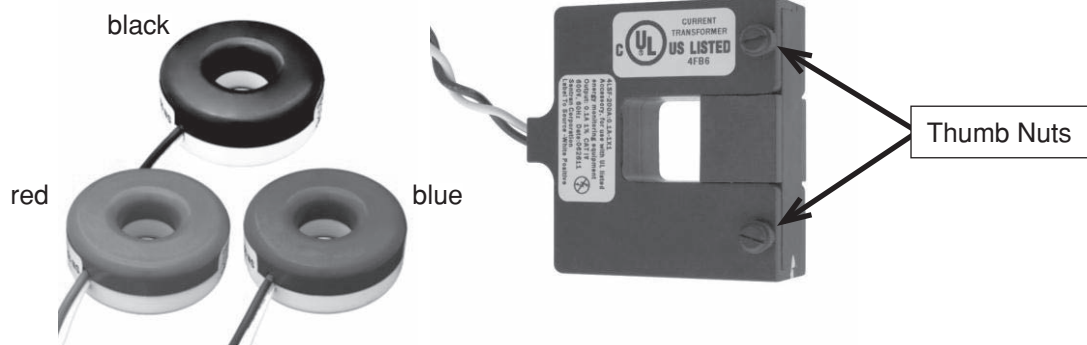
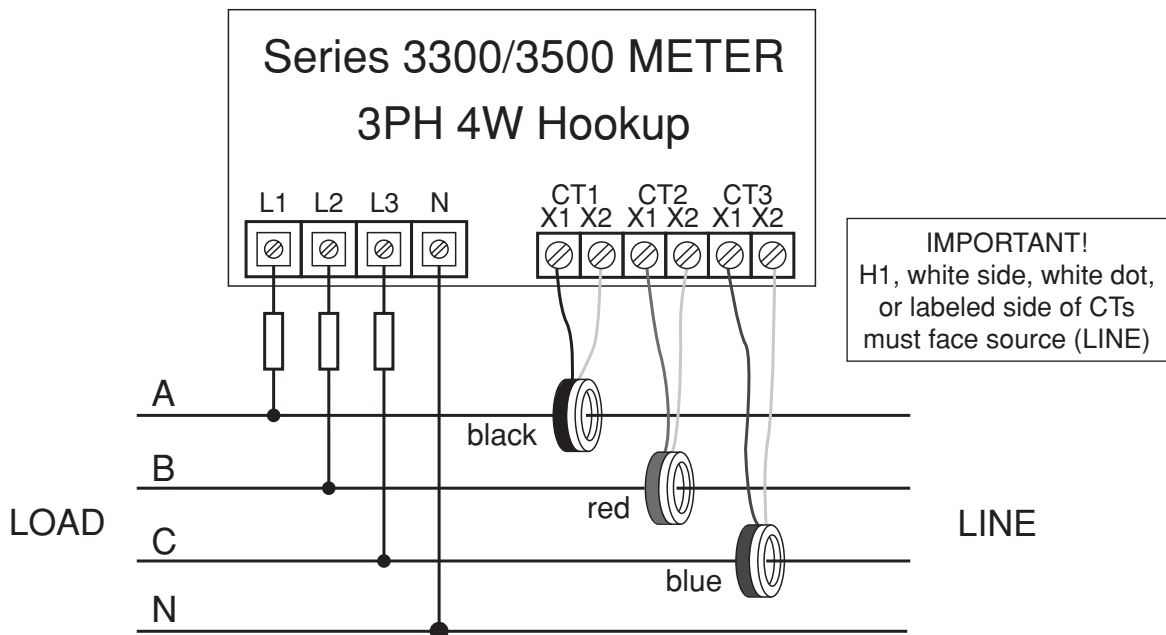

Figure 6: Leviton solid core and Split Core CTs
Figure 8: 3-phase 4-wire Wye hookup diagram
2. Connect 600 V min. insulated wiring for Line voltages and Neutral to the appropriate locations in the breaker panel, in accordance with all national and local electrical codes; see Hookup Diagrams in Figures 8 and 9 below for correct wiring information.
- Current and voltage inputs must be installed in phase' (e.g. CT1 on Line 1, CT2 on Line 2, CT3 on Line 3) and oriented correctly as shown in Hookup Diagrams in Figures 8 and 9.
- Leviton solid core CTs (Figure 6, left photo): In accordance with CT label, the LINE side of CT must face incoming Line. White lead connects to the appropriate X2 terminal. Black or colored lead connects to the appropriate X1 terminal.
- Leviton split core CTs (Figure 6, right photo): The side with the white dot, white label, or H1, must face the incoming LINE. White wire connects to X2 terminal, black wire connects to X1 terminal.
4. Connect the CT leads to the appropriate terminals; see Hookup Diagrams in figures 8 and 9 below for correct CT orientations and connections. The CT terminal block is removable to make wire connections easier; see Figure 5. After securing CT wires to the appropriate terminals slide terminal block up into header until fully seated.
5. For Split Core CTs: Remove two thumb nuts (Figure 6) and remove section from CT. With power to the conductors turned off, place the 3-sided section of the CT around the appropriate conductor while ensuring that white label, white dot or H1 faces Line (source). Reassemble the CT while ensuring that the white hash marks align (figure 5) and reinstall thumb nuts. Repeat for remaining conductors for two or three phase applications, as shown in Figures 8 and 9.
6. For Solid Core CTs: With power turned off, disconnect each monitored conductor one at a time and slide on appropriate CT, ensuring the CT is correctly oriented as shown in Figures 8 and 9. Reconnect the conductors.
Hookup Diagrams, Figures 8 and 9
- b. For mono-directional metering applications the Energy Flow arrow should always point to the right. If an Amperage or kW screen shows the arrow pointing to the left a current transformer may be installed backwards or on the wrong phase, or CT connections at the meter may be reversed or connected to the wrong CT input terminals, or voltage wires at the meter could be cross-phased. Section 4 further describes how the Amperage screens operate to indicate a reverse energy condition. Refer to Hookup Diagrams in Figures 8 and 9 for correct wiring and CT orientations.
- c. Power Factor Screens – Except in rare circumstances where predominantly inductive loads are metered, Power Factor values should have an absolute value greater than 0.6. A lower value indicates CTs installed on the wrong phase, backwards, or incorrectly connected at the meter, or voltage connections at the meter could be cross-phased. If PF is lower than 0.6 recheck CT placements and orientations and CT and voltage connections at the meter against the appropriate Hookup Diagram shown in Figures 8 and 9.